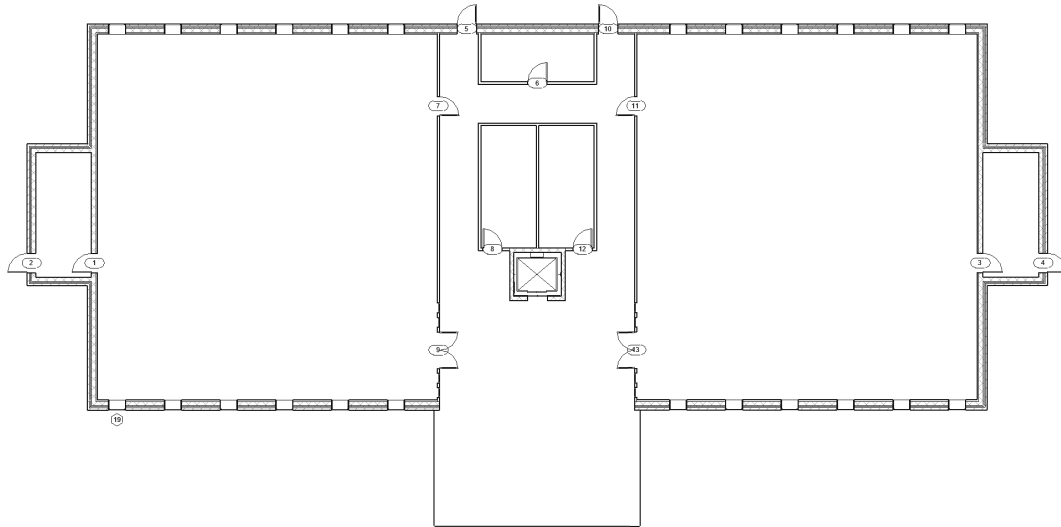

FIGURE 3-5.12 Completed window layout
22. Place the windows on the three remaining walls of the first floor (Figure 3-5.12). Consider the following: